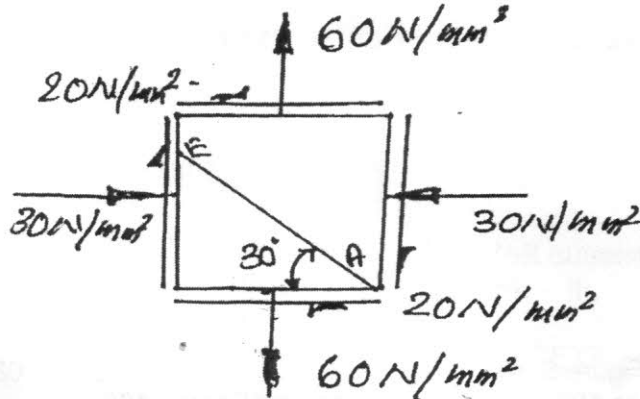

Figure 2 (b)
- b) The state of stress at a point in a strained material is shown in Figure 2 (b). Determine i) Principal stresses and their planes ii) Normal and shear stress on plane AE.